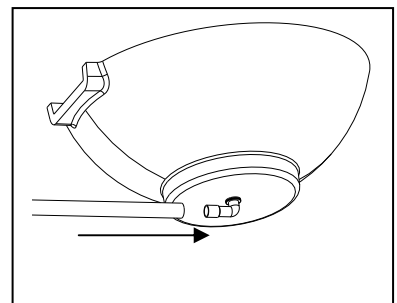

Fig. 6
6. Connect tubing to the inlet on the bottom of the fountain. Make sure that the tubing adapter is pointed in the same direction as the spillway. If not, carefully turn the adapter. Fig. 6